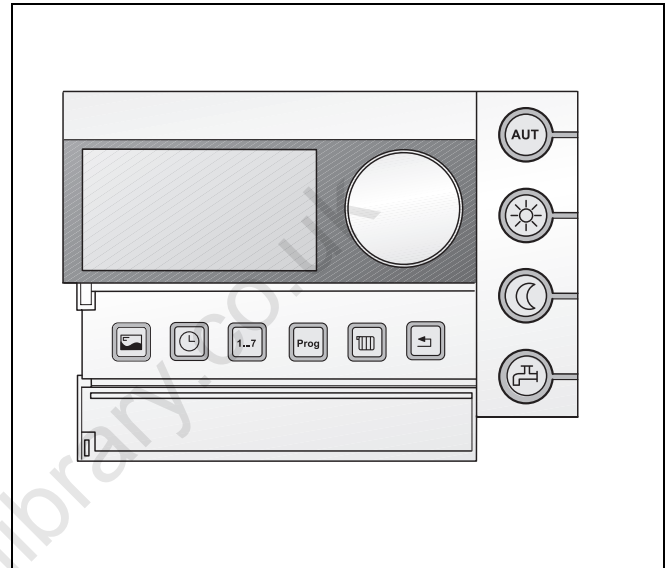

fig. 18 RC30 room controller
- Make the settings on the room controller (e. g. RC30, see fig. 18). We advise you to check and/or set the following: